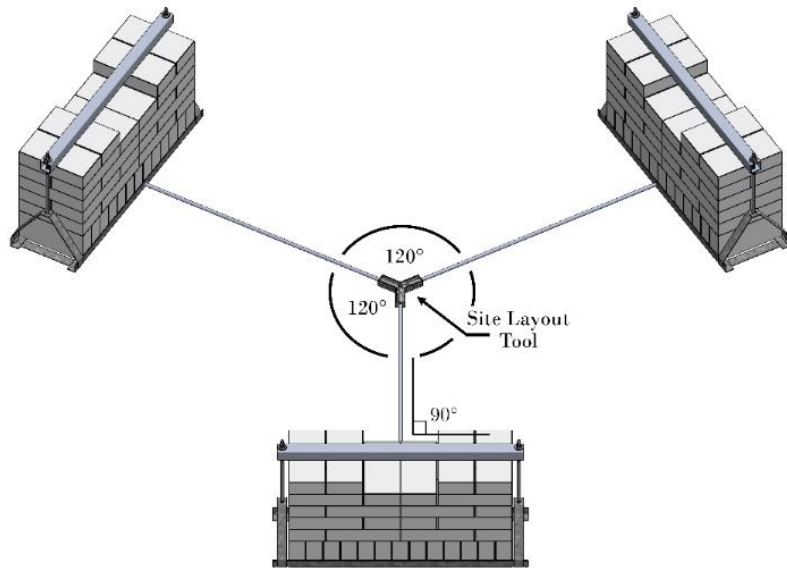
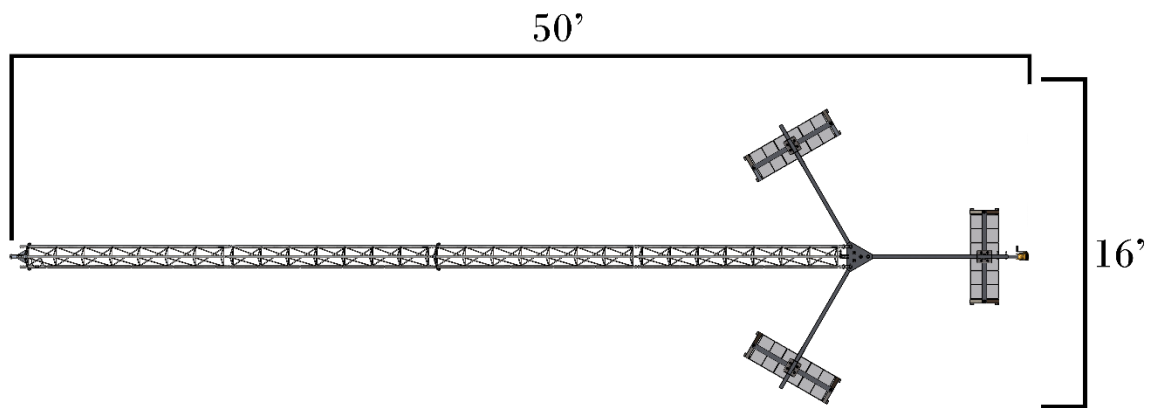

Figure 14 Site layout tool
Figure 15 Ballast Block location
6. Place the tower ballast frame assembly perpendicular to the site layout tool as per Figure 14 and confirm there is an area for the tower to be assembled and connected with no obstructions as per Figure 15.